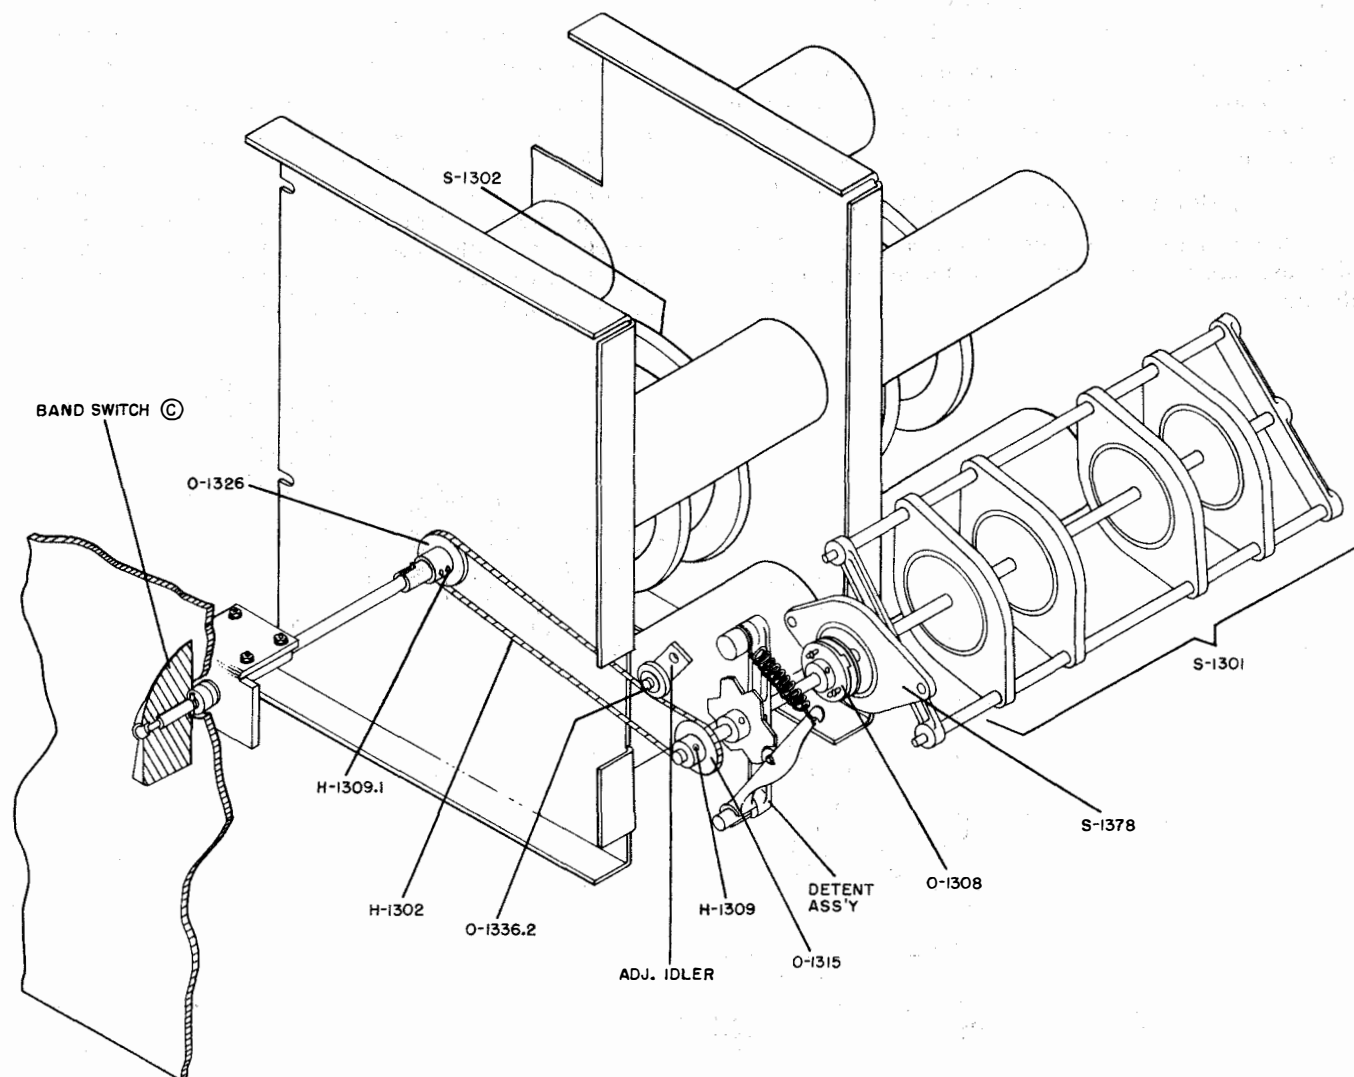

Figure 7-77. RFA, S-1301 and S-1302 Bandswitch, Mechanical Drive System
8. BANDSWITCHES S-1301 AND S-1302. (See figures 7-74 and 7-77.)—If any of the components of bandswitches S-1301 and S-1302 are replaced, it will be necessary to check proper phasing of these switches after reassembly. (Refer to figure 7-77.)
*Step 4.* Rotate BANDSWITCH selector © to the 2-5 MC position. At this position the red dots on coupler O-1308 will be facing outwards (figure 7-77).